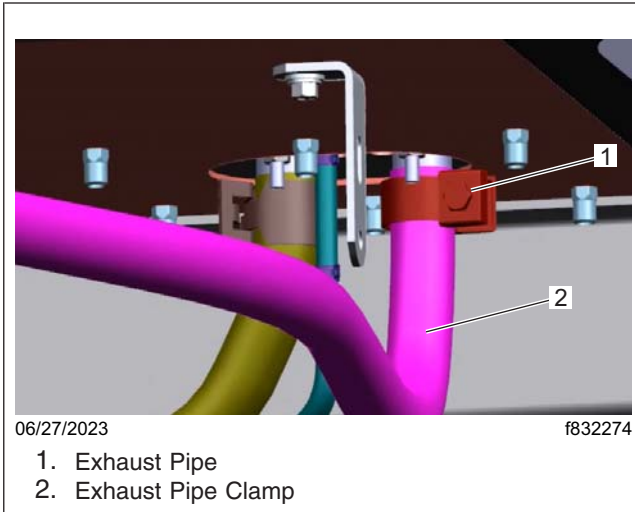
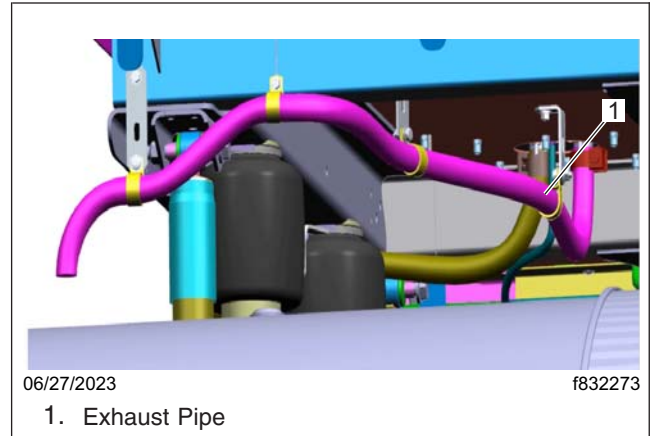

Fig. 27, Exhaust Pipe Clamp Location
Fig. 28, Exhaust Pipe Location
13. Install the exhaust pipe on the exhaust port of the heater. If accessible, fully install and hand-tighten the exhaust pipe clamp from inside the cab; otherwise, hand-tighten the exhaust pipe clamp from below the cab. See Fig. 27 and Fig. 28.